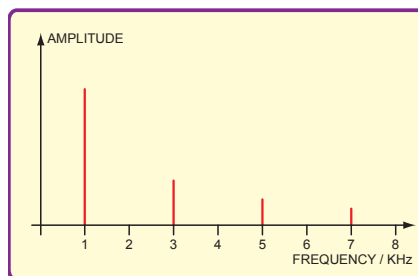

Fig.3. Part of the spectrum of a square wave
**Fig.3: install the parts on the PC board as shown in this parts layout diagram. Table 1 (facing page) shows how to install links LK1-LK4 to suit the selected power supply.**
coded 770. This board is available from the *EPE PCB Service*. The printed circuit board component layout is shown in Fig.3. The board also carries screw terminal blocks for the audio input and output connections, plus a DC socket for the power supply connections (depending on the supply used).
Looking at this the other way round, we can break any waveform down into its constituent sinewaves, finding the amplitude of each one. Doing this is called Fourier analysis and one technique for achieving this is the fast Fourier transform, mentioned by 741 in the second part of his question. If we plot a graph of the amplitude of the constituent sinewaves along a frequency axis we have the spectrum of the waveform. Part of the spectrum of a square wave is shown in Fig.3.